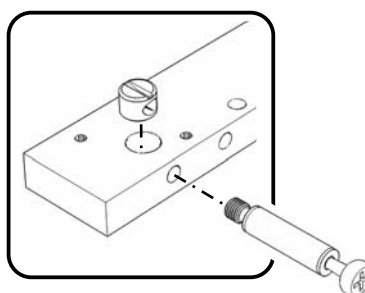

Figure 3
Insert Insert into pre-drilled hole in Post (F), insert Cam Lock Screw (long) into Insert, then tighten. (See Figure 3)